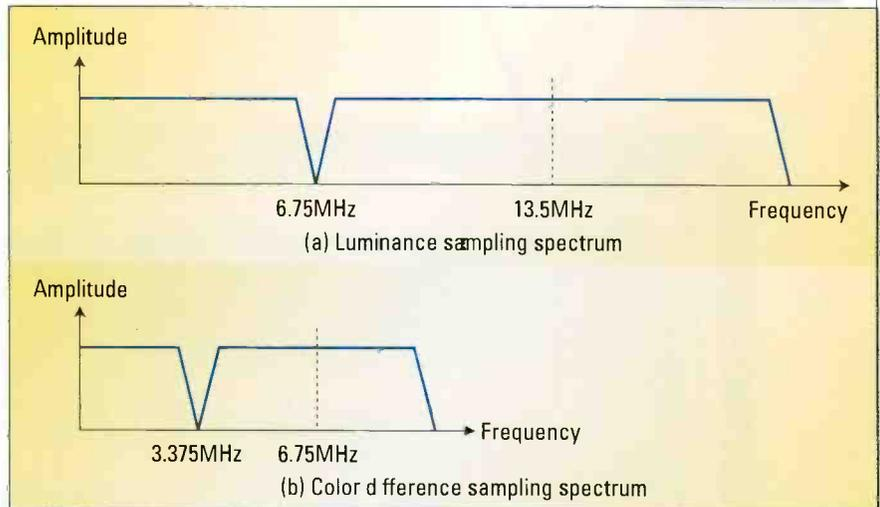

Figure 1. Sampling spectrum of 4:2:2 SDTV signals
The sampling of the video signal is essentially a pulse amplitude modulation process. It consists of checking the signal amplitude at periodic intervals (T). (See Figure 1.) The sampling frequency ($F_s=1/T$) has to meet two requirements: